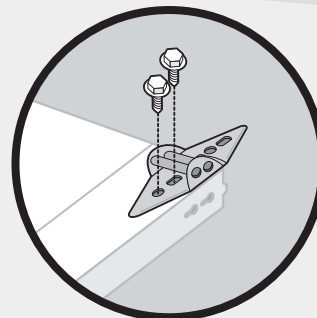

Fig. 3-B
- Attach all five hinges from top of previous section to bottom of section being placed using (2) #14 × 5/8" sheet metal screws for each hinge (Fig. 3-C).